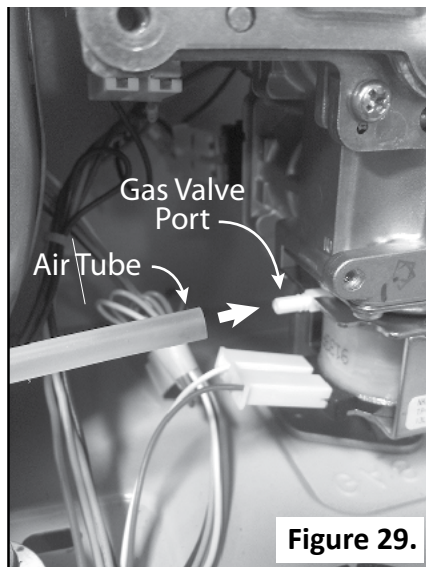

Figure 29.
- 5.4 Disconnect the clear air tube off the left side of the gas valve. (Figure 29.)